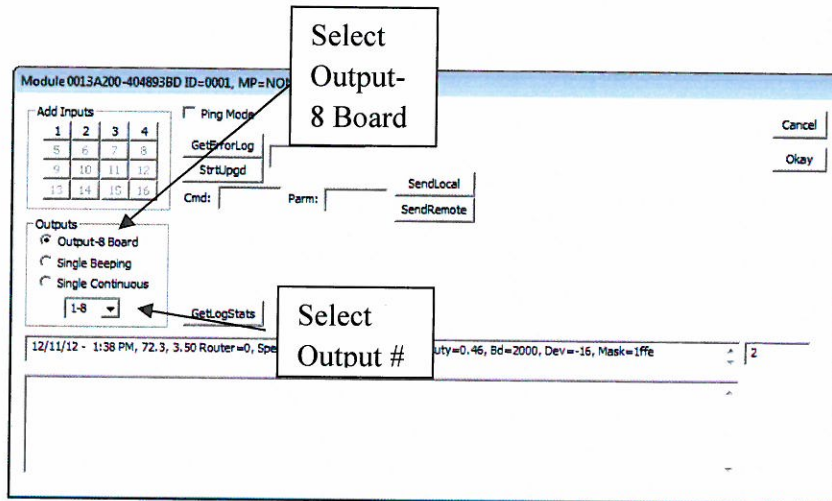

Figure 23:
3. Click the "Select Module" button in the dialog box as shown in Figure 22. This will open the ReesZigbee Dialog box as shown in Figure 23.
4. Select “Output 8 Board” and the Output number range for the Output 8 board being controlled as shown in Figure 23.